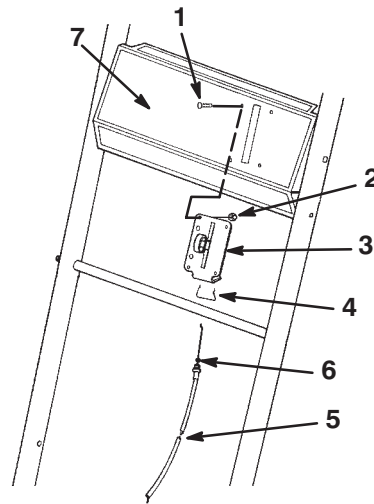

Figure 10
1. Remove four Phillips head screws and four locknuts that secure the throttle control to the control panel (Fig. 10).
2. Replace the old control panel decal with the new decal (Fig. 10).